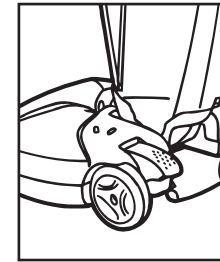

Fig.3/10
8. Turn cleaner on by switching the power on/off switch [located on the side of the cleaner]. Fig. 3/11.